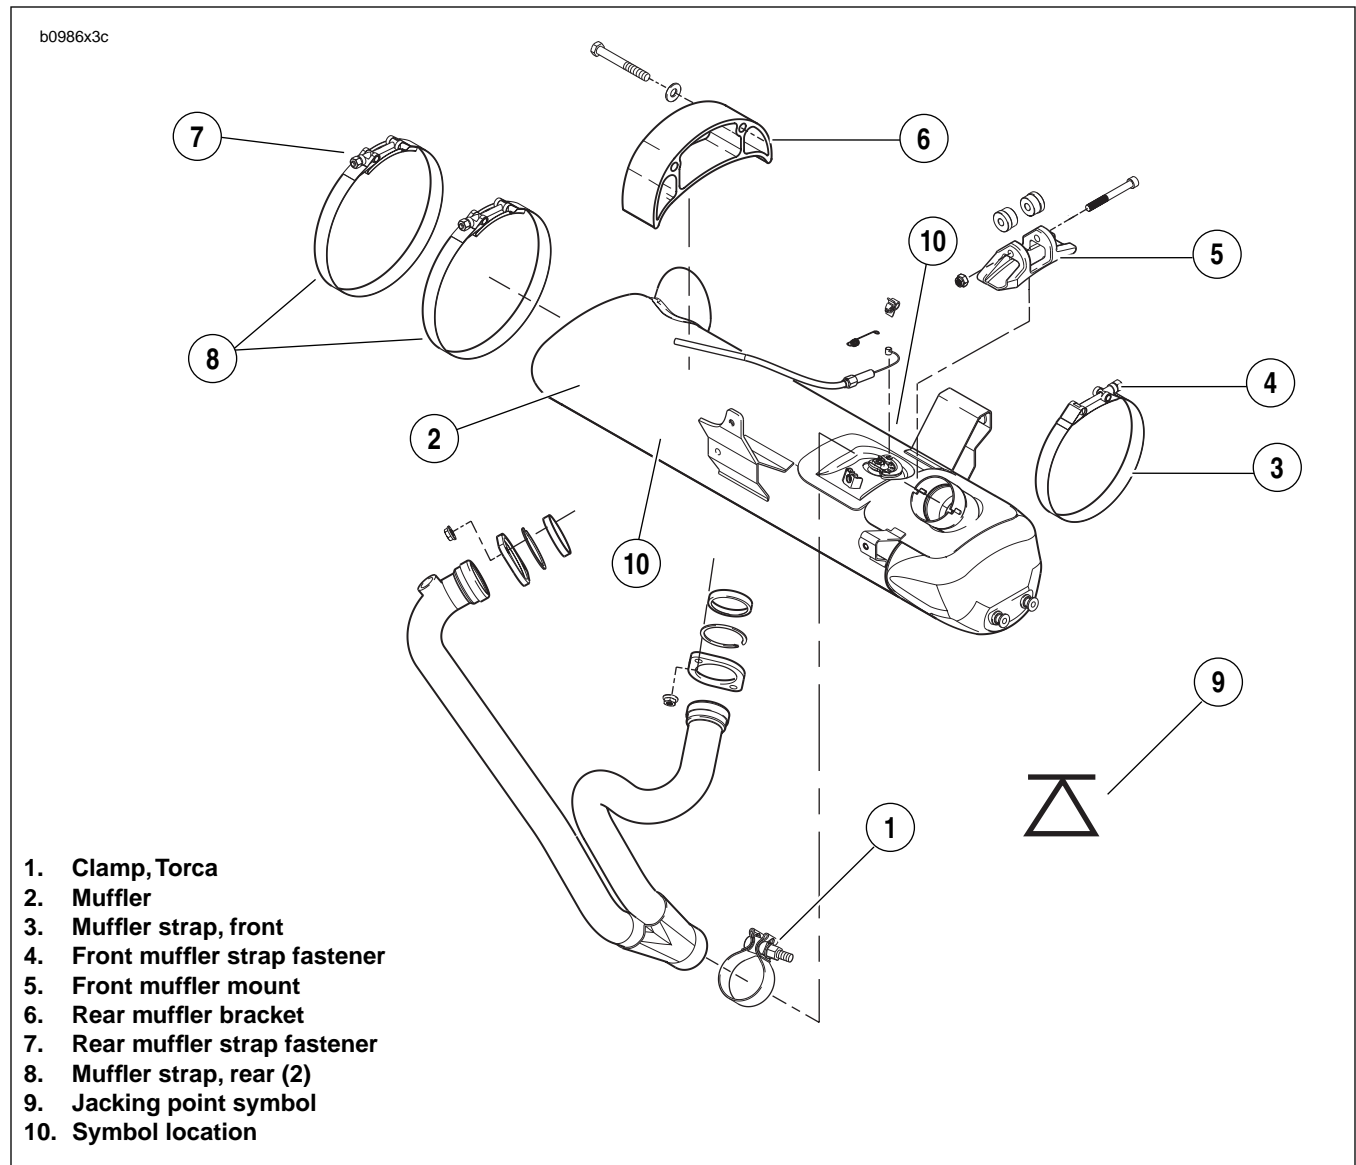

Figure 2-115. Muffler and Mounting System
4. See Figure 2-115. Loosen front muffler mount fastener (5) but do not remove.
2. See Figure 2-115. Remove front muffler mount fastener (5).
3. Remove strap (3) from front muffler mount (5).
4. See Figure 2-115. Remove rear muffler bracket fasteners.
1. See Figure 2-115. Slide rear muffler bracket over oil feed line.
1. See Figure 2-115. Install front muffler mount bushings.
2. Install **new** strap on front muffler mount (5).
3. See Figure 2-115. Loosely install **new** front and rear muffler straps (2, 4).